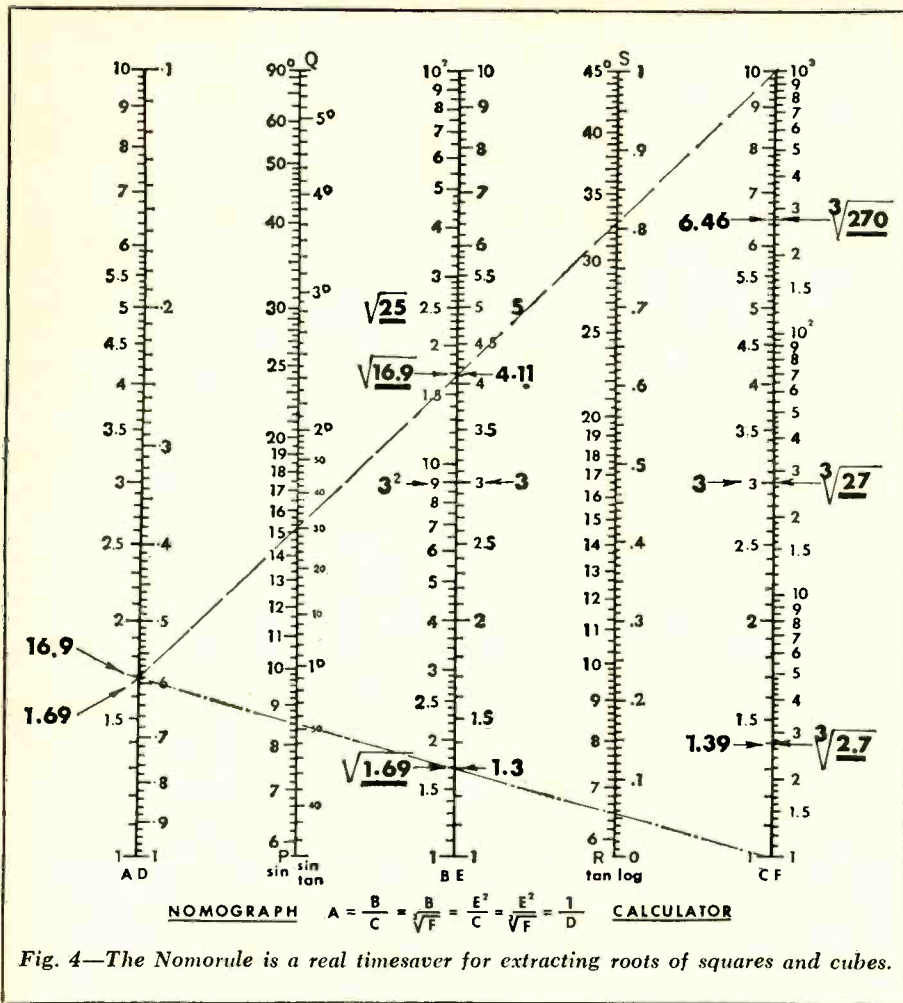

Fig. 4—The Nomorule is a real timesaver for extracting roots of squares and cubes.
Squares and square roots are read directly from scales B and E. Fig. 4 shows that  $\sqrt{25} = 5$ , and that  $3^2 = 9$ . Now let us find  $1,200^2$ . Write  $1.2^2 \times (10^3)^2 = 1.44 \times 10^6 = 1,440,000$ . To find  $.003^2$ , write  $3^2 \times (10^{-3})^2 = 9 \times 10^{-6} = .000009$ .
Squares may also be found by using scales A and E in conjunction with point 1 (C). For example, the dot-dash line (Fig. 4) shows that  $\sqrt{1.69}$  (A) = 1.3 (E). The reason? We know that  $A = B/C$  and that  $B = E^2$ . Then  $A = E^2/C$ . When  $C = 1$ ,  $A = E^2$  directly. The same figure shows  $4.11^2 = 16.9$ , if we use 10 (C) as pole. We have used the equation  $A = E^2/10$  in this case, so the answer on A (1.69) must be multiplied by 10 to arrive at the correct solution, 16.9.